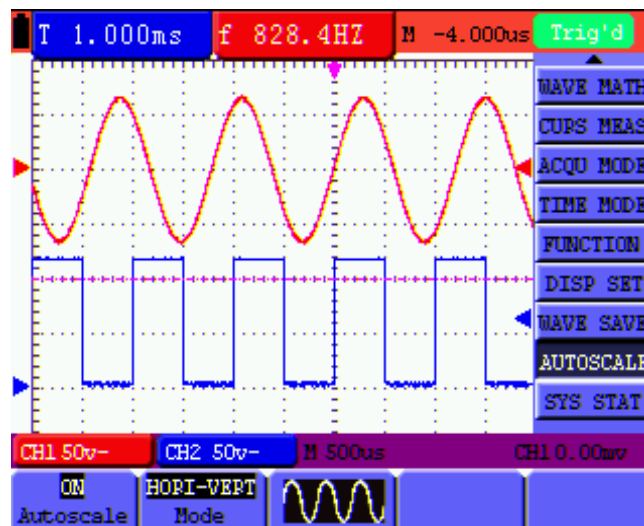

figure 52: Autoscale Horizontal- Vertical multi-period waveforms
5. Press **F3** and  displays on the screen as figure 52: